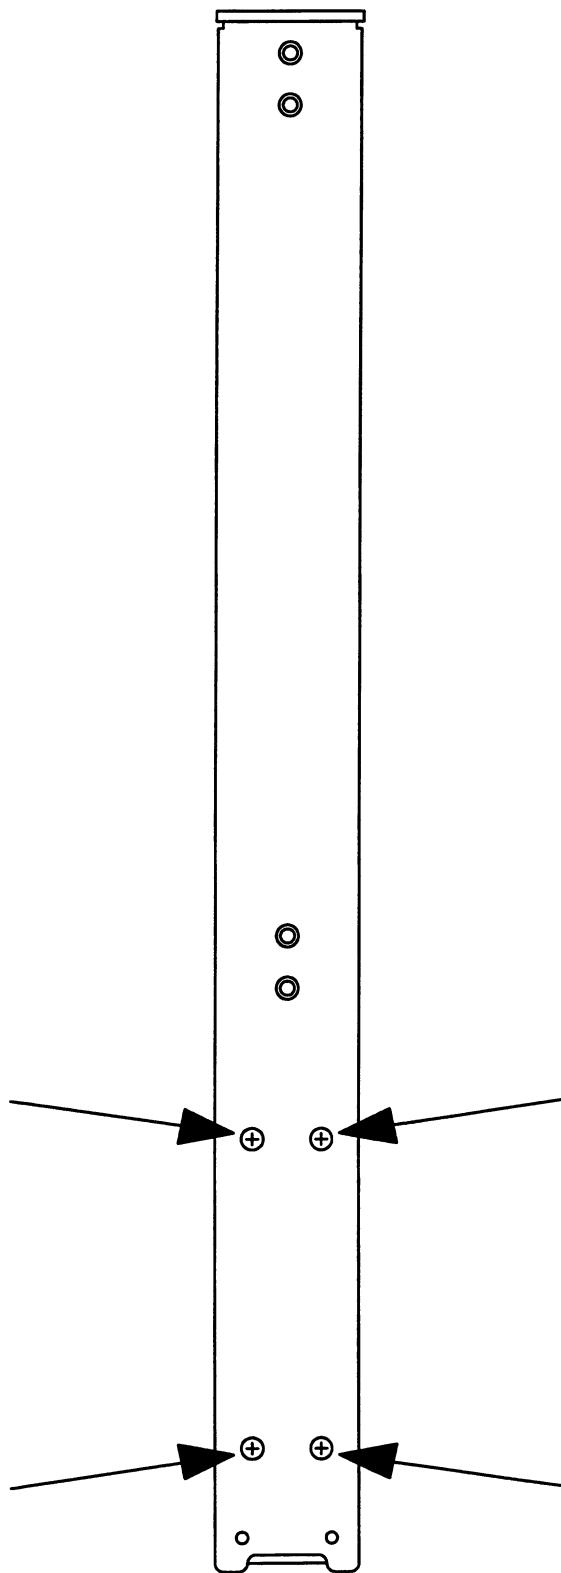

Fig. 5.2 Dismantling the Power Supply
2. Unscrew the 4 screws on each side panel (see Fig. 5.2).